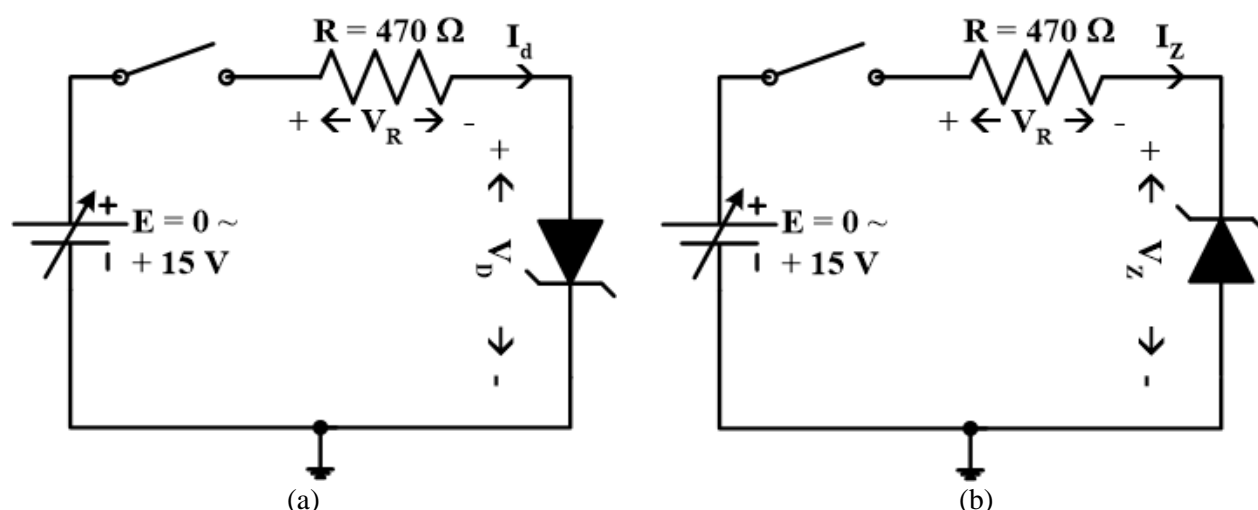

Figure 5: Circuit diagram for the determination of Zener diode's (a) forward and (b) reverse characteristics
2. Connect the circuit as shown in Fig. 5 (a).
9. Now, connect the circuit as shown in Fig. 5 (b).